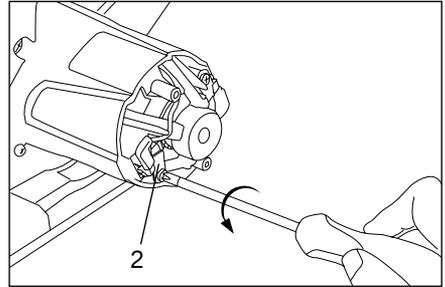

Fig. 19
2. Remove the brush clamp plate (2) (Fig. 19).